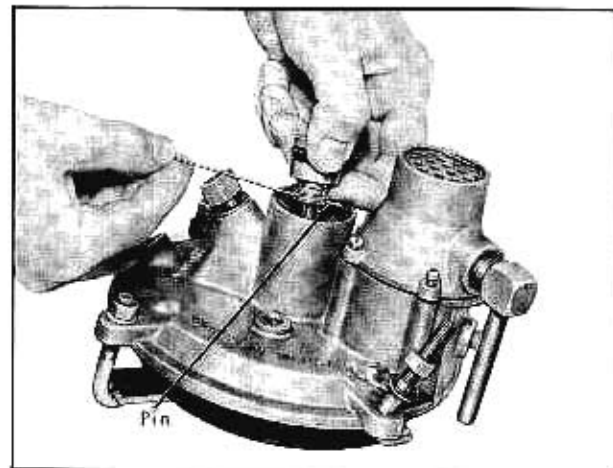

Fig. 9-11 Removing Piston Rod Pin
8. Remove the hydraulic piston assembly from the push rod by holding retaining spring back and removing the small pin, Fig. 9-11.